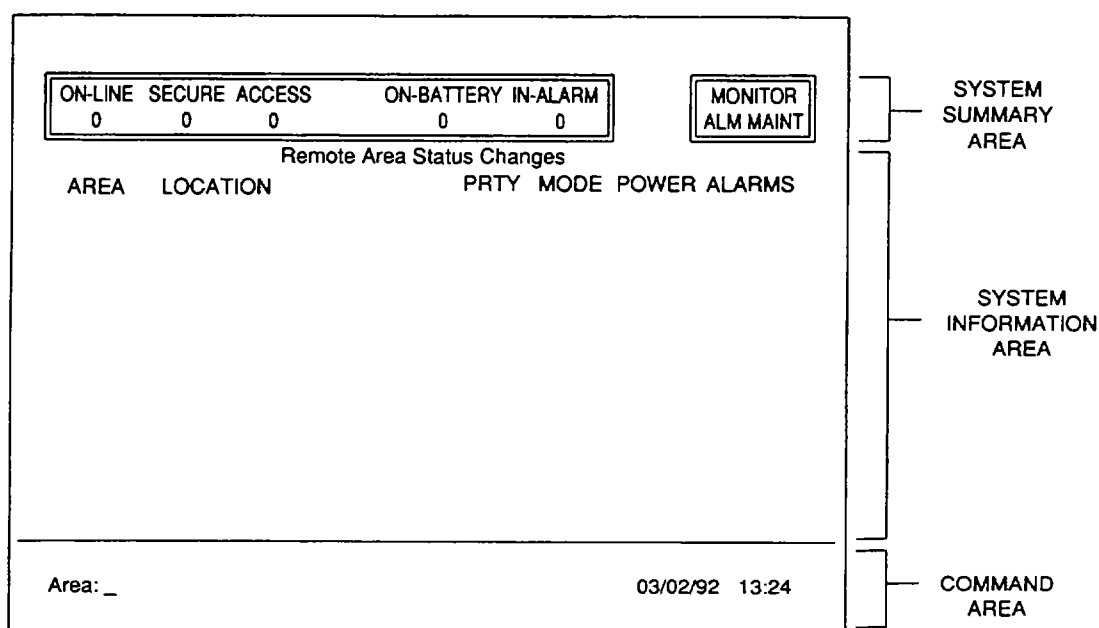

Figure 1-4. Secure Mode Screen Area
1.15.2 Secure Mode Screen Area. Each Secure Mode screen (figure 1-4) is divided into either two or three sections and the operator observes the Secure Mode screen to perform security tasks required by the indications of status changes. Each time J-SIIDS or AMG has a status change an audible alarm sounds which an operator must acknowledge. The audible alarm is silenced by pressing <Fl>. Also, a visual indication remains on the screen until the alarm is acknowledged. The operator then checks the system summary area of the displayed screen. The operator only uses limited keys from the keyboard as indicated by the template. Some Secure Mode screens also allow use of the number keys 1 through 0. The three sections which may appear on the screen are described in the following paragraphs and the Secure Mode screens are described in paragraphs 1.15.3 through 1.15.6.